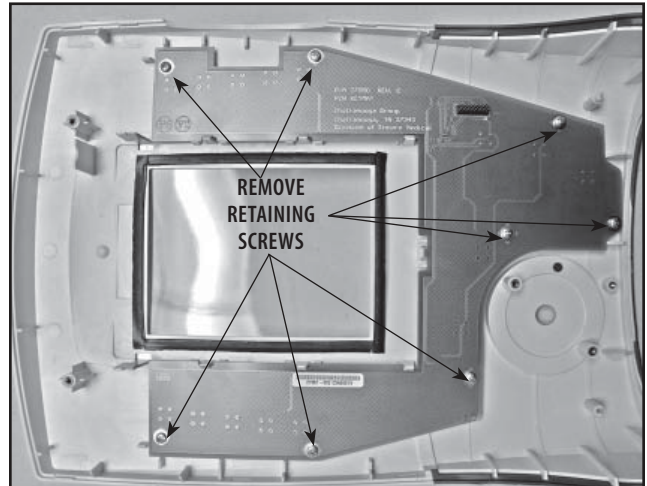

FIGURE 6.28
4. Remove eight Keymat PC Board Retaining Screws. See Figure 6.28.